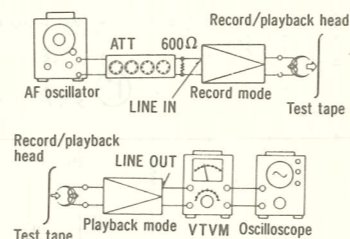

Fig. 11
<p>Ⓓ Overall gain</p> <p>Condition:</p> <ul style="list-style-type: none"> <li>* Record/playback mode</li> <li>* Input level controls ... MAX</li> <li>* Standard input level; <ul style="list-style-type: none"> <li>MIC ... -72 <math>\pm</math> 4 dB</li> <li>LINE IN ... -24 <math>\pm</math> 3 dB</li> </ul> </li> </ul> <p>Equipment:</p> <ul style="list-style-type: none"> <li>* VTVM</li> <li>* AF oscillator</li> <li>* ATT</li> <li>* Oscilloscope</li> <li>* Resistor (600<math>\Omega</math>)</li> <li>* Test tape (reference blank tape) <ul style="list-style-type: none"> <li>... QZZCRA for Normal</li> </ul> </li> </ul>	<ol style="list-style-type: none"> <li>1. Test equipment connection is shown in fig. 11.</li> <li>2. Place UNIT into record mode, and tape selector to normal position.</li> <li>3. Supply 1 kHz signal (-24 dB) from AF oscillator, through ATT to LINE IN.</li> <li>4. Adjust ATT until monitor level at LINE OUT becomes 0.39 V.</li> <li>5. Using test tape, make recording.</li> <li>6. Playback recorded tape, and make sure the value at LINE OUT on VTVM becomes 0.39 V (-7 dB).</li> <li>7. If measured value is not 0.39 V, adjust VR5 (L-CH), VR6 (R-CH) (See fig. 1 on page 3).</li> <li>8. Repeat from step (2).</li> </ol>
<p>Ⓙ Overall frequency response</p> <p>Condition:</p> <ul style="list-style-type: none"> <li>* Record/playback mode</li> <li>* Tape selector <ul style="list-style-type: none"> <li>... Normal position</li> <li>... CrO2 position</li> <li>... Metal position</li> </ul> </li> <li>* Input level controls ... MAX</li> </ul> <p>Equipment:</p> <ul style="list-style-type: none"> <li>* VTVM</li> <li>* AF oscillator</li> <li>* ATT</li> <li>* Oscilloscope</li> <li>* Resistor (600<math>\Omega</math>)</li> <li>* Test tape (reference blank tape) <ul style="list-style-type: none"> <li>... QZZCRA for Normal</li> <li>... QZZCRX for CrO2</li> <li>... QZZCRZ for Metal</li> </ul> </li> </ul>	<p>Note:</p> <p>Before measuring and adjusting, make sure of the playback frequency response (For the method of measurement, please refer to the playback frequency response).</p> <ol style="list-style-type: none"> <li>1. Test equipment connection is shown in fig. 11.</li> <li>2. Place the normal test tape (QZZCRA) in the cassette holder.</li> <li>3. Place UNIT into record mode, and tape selector to normal position.</li> <li>4. Supply 1 kHz signal from AF oscillator through ATT to LINE IN.</li> </ol>